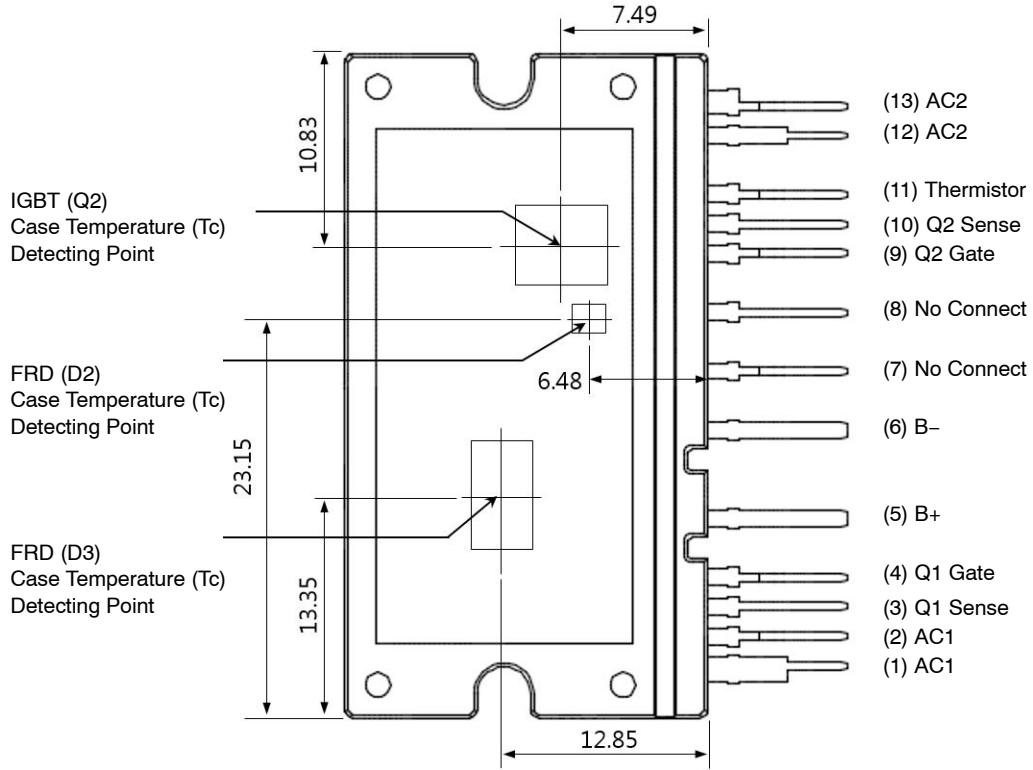
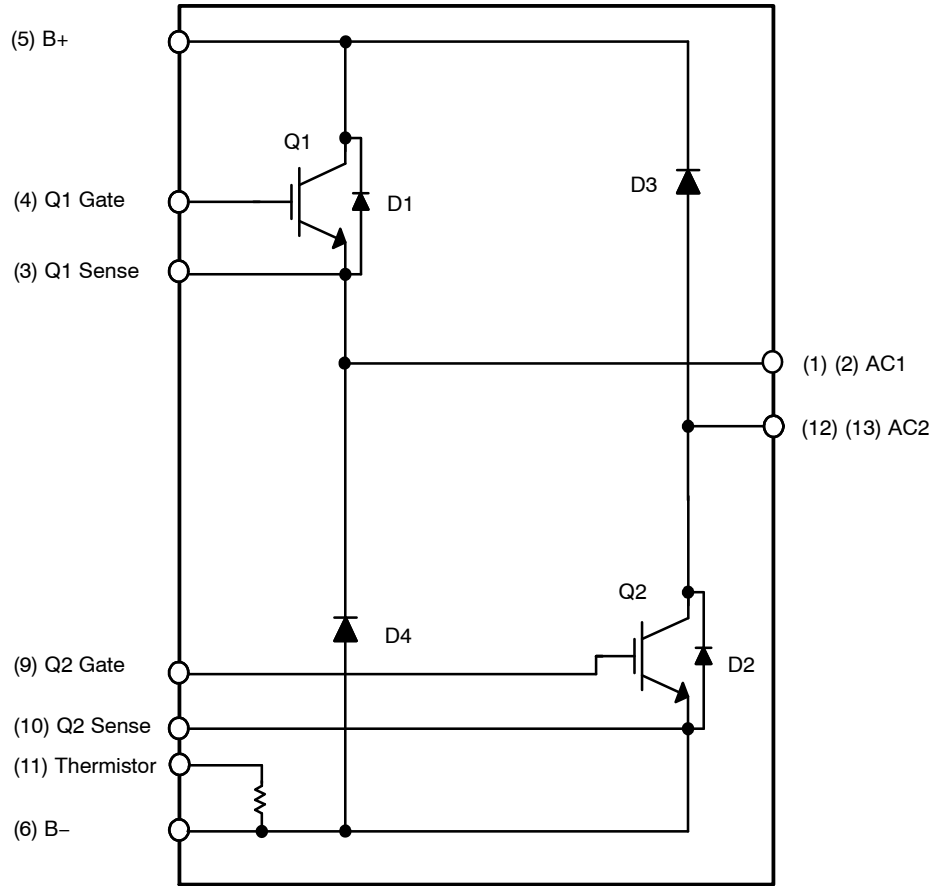

Figure 1. Bottom View
Figure 2. Internal Block Diagram
- 650 V – 75 A IGBT Full Bridge Inverter for DC / AC Power Conversion (Please Refer to Figure 2)
- For the measurement point of case temperature ( $T_C$ ), please refer to Figure 1 and Figure 2 of chip location, and case temperature and heat sink temperature are defined on the each surface of base plate and heat sink just under the chips. DBC discoloration and Picker Circle Printing allowed, please refer to application note AN-9190 (Impact of DBC Oxidation on SPM Module Performance).